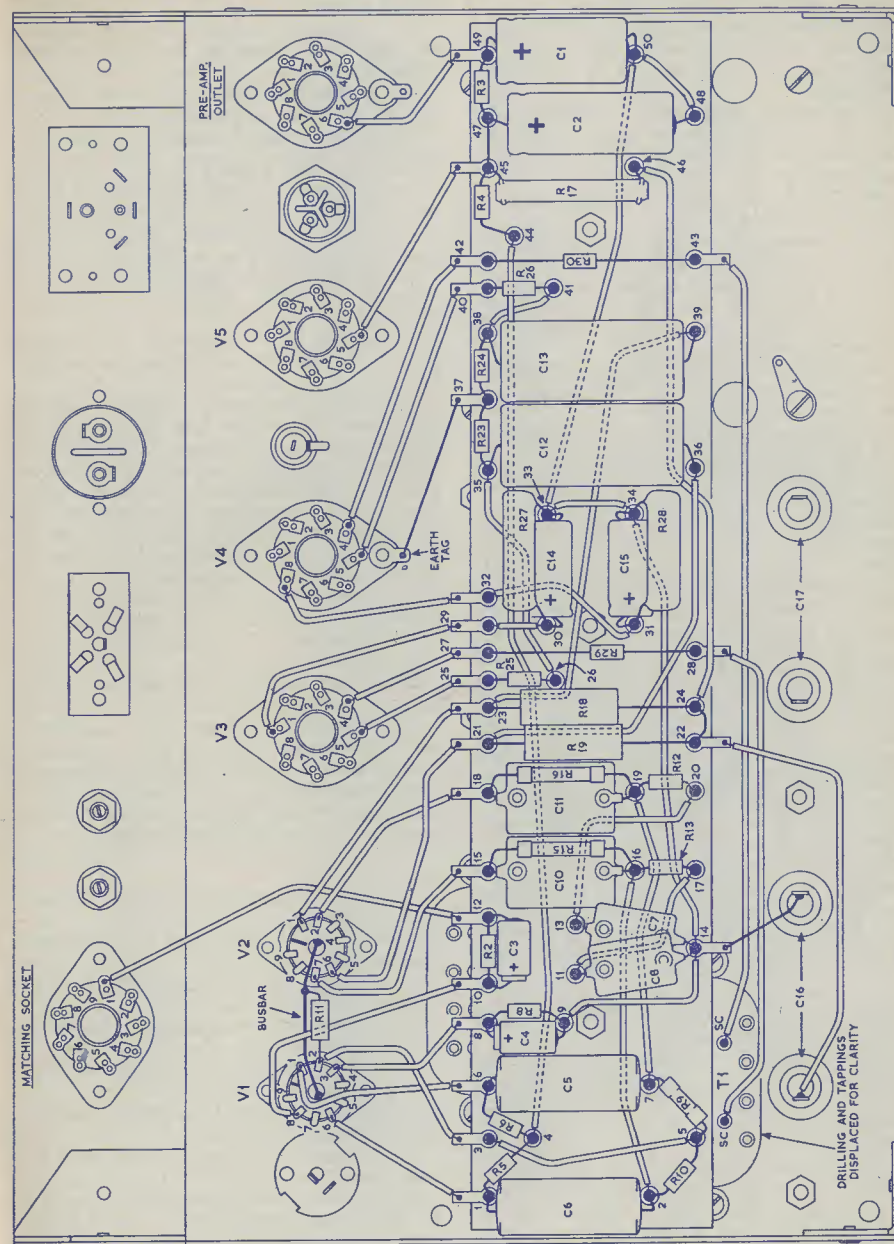

Fig. 6. The components and wiring fitted in the second wiring stage
The tags and eyelets on the group board are numbered in Fig. 6. The instructions which follow refer to these numbers, and, also, to the eyelets as "tags". There is no wiring under the group board.
The second stage of wiring is concerned with the fitting of components to the group board, and should be carried out before the board is fitted to the chassis. The connections made are shown in Fig. 6, which illustrates both the second and third wiring stages. When it is wired, the group board will be mounted over the three long 2BA bolts fitted in step 1. Sufficient clearance should be left between components and wiring adjacent to the three corresponding holes in the group board to enable the securing 2BA nuts and washers to be eventually fitted and tightened up.
50. Connect C_8 (470pF) between tags 11 and 14, soldering at both tags. As shown in Fig. 6, C_8 is positioned so that it overlaps C_7 .
In this stage all connections made to group board tags are soldered to the tag projections on either side of the board. The third wiring stage is also illustrated in Fig. 6.
89. Without sleeving, connect tag 37 to V_4 chassis tag, as indicated in Fig. 6.
94. Fitting sleeving, and shortening the previously-fitted lead as necessary, connect the right hand "SC" tag (see Fig. 6) of T_1 to tag 43, soldering at tag 43.
95. Fitting sleeving, and shortening the previously-fitted lead as necessary, connect the left hand "SC" tag (see Fig. 6) of T_1 to tag 28, soldering at tag 28.